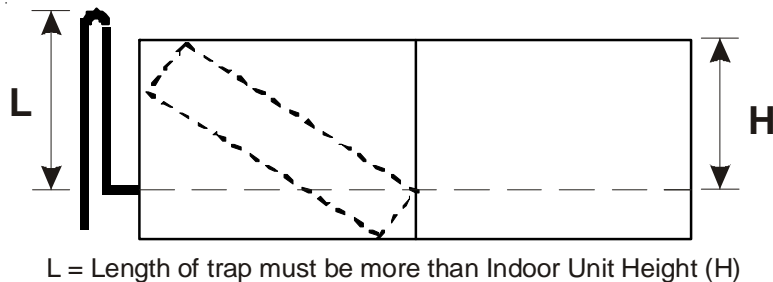

Figure 4-1. Indoor Unit with Inverted Suction
- An inverted suction line trap must be installed on the suction line just before the inlet to the indoor unit (see Figure 4-1). The top of the inverted loop must be slightly above the top of the indoor unit coil and can be created simply by brazing two 90° long radius elbows together if a bending tool is unavailable. Properly support and secure the inverted loop to the nearest point on the indoor unit or adjacent structure.